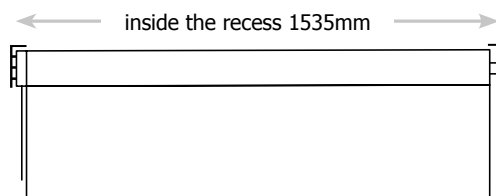
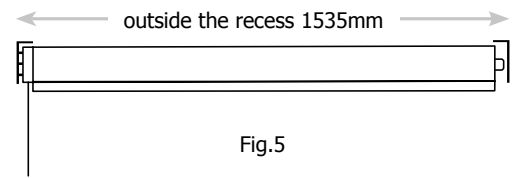

Fig.4
Fig.5
**3.** Use this figure to position the outside of your brackets accordingly whether inside of the recess (Fig.4) or outside of the recess (Fig.5)